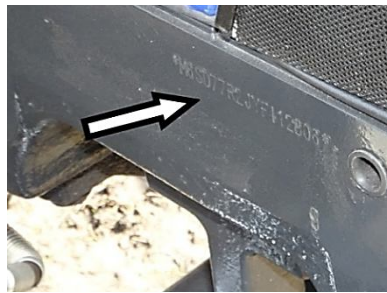

Fig. 1b
- The chassis (tractor) serial number is punctured on the clutch housing at the R.H. side of the tractor (Fig. 1b).